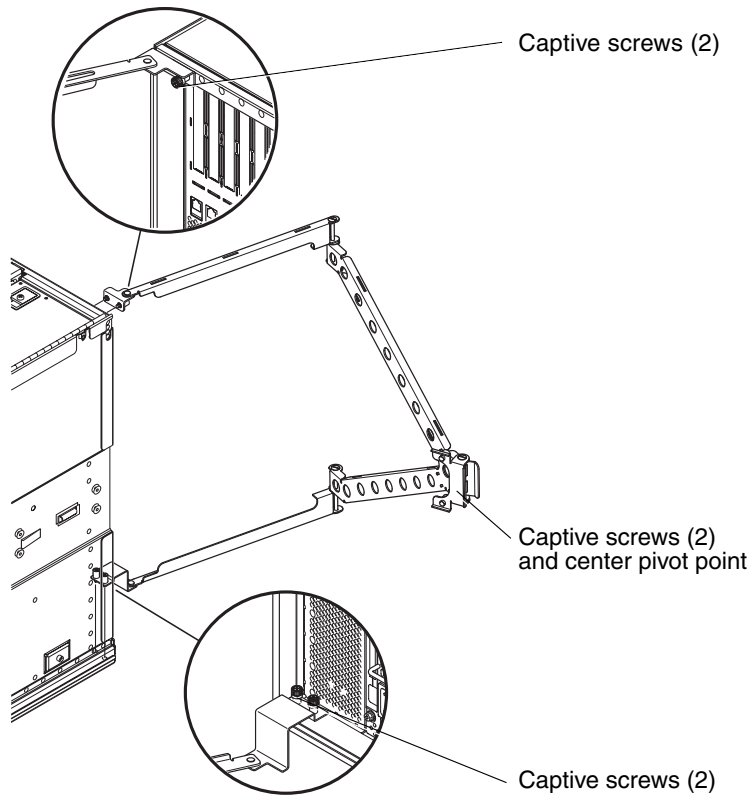

FIGURE 14-2 CMA-Lite Cable Management Arm
1. Loosen the two captive screws (FIGURE 14-2) that secure: